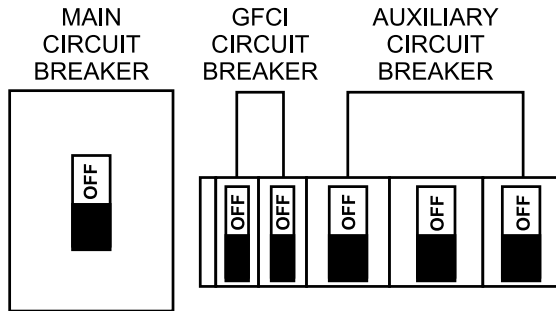

Figure 53. Main, Aux. and GFCI Circuit Breakers (OFF)
1. Place both the **MAIN, GFCI and LOAD** circuit breakers as shown in Figure 53 to the **OFF** position.